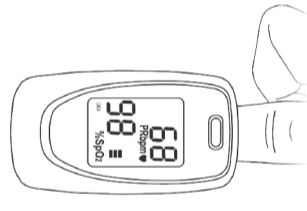

Figure 5. Put finger in position
1. The finger should be placed properly (see the attached illustration of this manual, Figure 5), or else it may cause inaccurate measurement.
- Open the clip as shown in Figure 5.